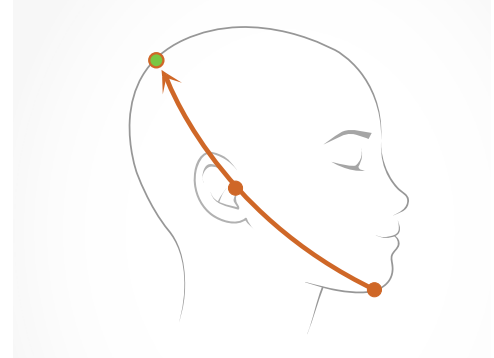

Figure 7: Crown of the head, correct position for DeltaScan Patch electrode 1 (and HairLock, in case HairLock is used).
- The crown of the head is the correct position for electrode 1 of the DeltaScan Patch. This position can be determined according to Figure 7.